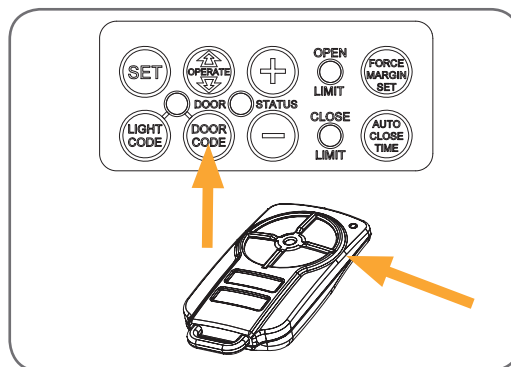

fig 35
- Briefly press the DOOR CODE button three times, then press it again and hold (will beep four times on fourth press (Fig. 35)).
- Press one of the four buttons on the transmitter for two (2) seconds, pause for two (2) seconds, then press the same button again for two (2) seconds.